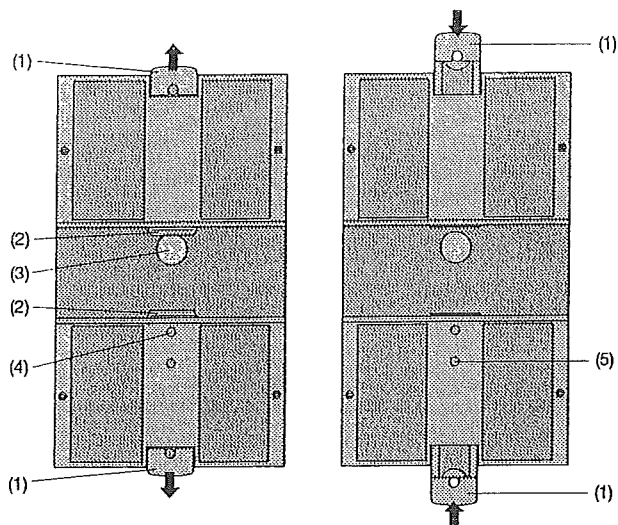

Fig. 5. Rear of device.
While pressing the latch (4) in the base of the device (Fig. 5, left) pull out the isolating amplifier securing brackets (1). To return the brackets to their original positions, the latch (5) in the base of the device has to be depressed before applying pressure to the securing brackets (1) (see Fig. 5, right).